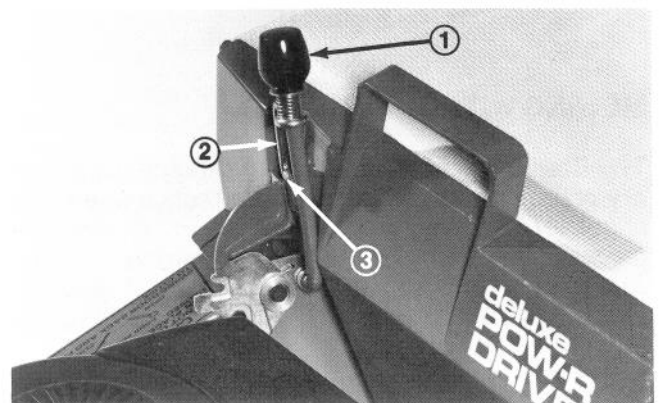

Figure 18
4. Squeeze lockout lever until it clears the housing latch. Then move handle rearward until it locks in notch at rear of bag latch (Fig. 18). The chute door in mower housing is now open, and mower is ready to bag grass.